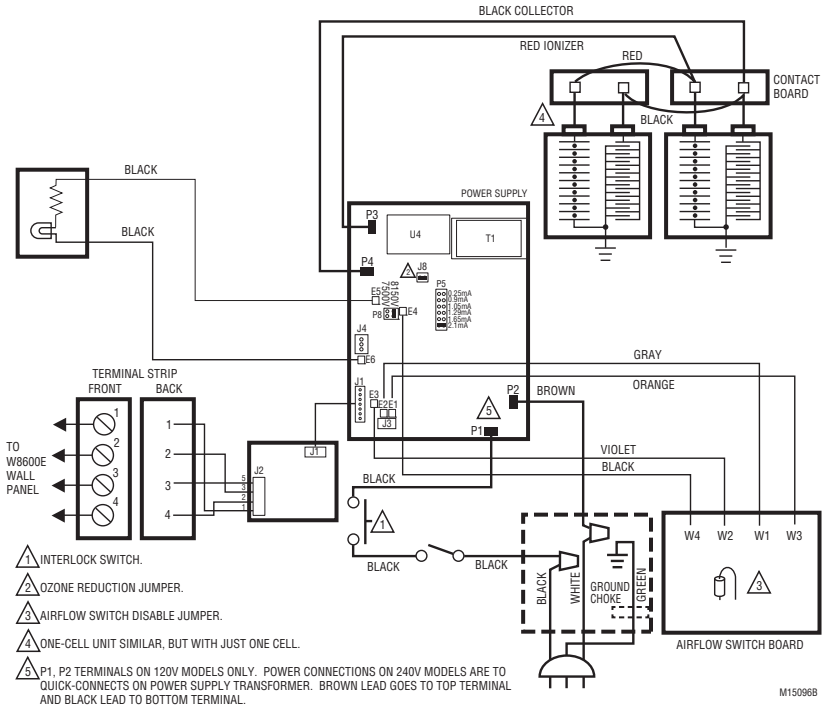

Fig. 3. Internal schematic for F50F and F58F Electronic Air Cleaner with W8600E.
- ❑ Plug the electronic air cleaner directly into the correct voltage and frequency outlet or reconnect power for directly wired devices. See Fig. 3 or 4 for internal schematic. The air cleaner operates correctly at any fan speed on a multispeed or modulated speed system wired with conduit or plugged in.